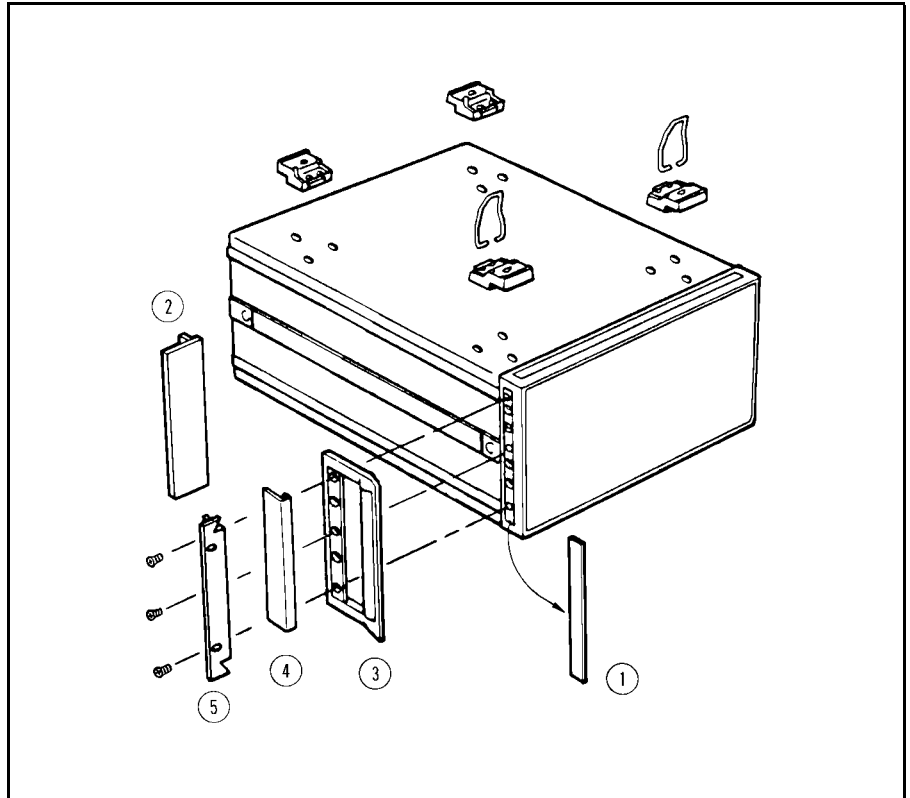

Figure 1-3. Rack Mount Kits Installation
The analyzer can be rack mounted and used as a component in a measurement system. Figure 1-3 shows how to rack mount the 4284A.
1. Remove the adhesive-backed trim strips ① from the left and right front sides of the 4284A. (Refer to Figure 1-3.)
2. Attach the front handles ② to the sides using the screws provided.
3. Attach the trim strips ③ to the handles.
2. Attach the rack mount flange ④ to the left and right front sides of the 4284A using the screws provided.
3. Remove all four feet ⑤ (lift bar on the inner side of the foot, and slide the foot toward the bar.)